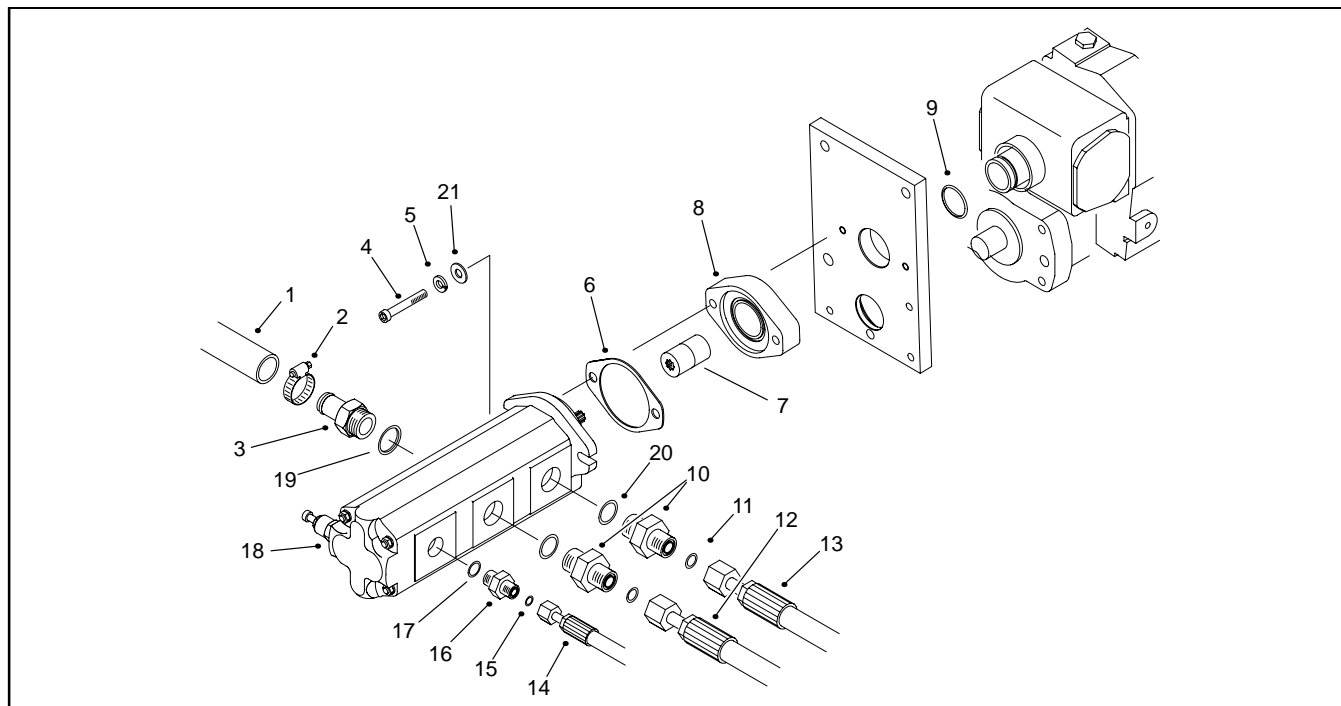

Figure 84
5. Disconnect hydraulic lines from pump and put caps or plugs on open hydraulic lines and fittings. Label disconnected hydraulic lines for proper Reassembly (Fig. 84).
6. Remove two (2) cap screws and washers securing pump to support plate. Remove pump, transmission coupler, and transmission adapter.